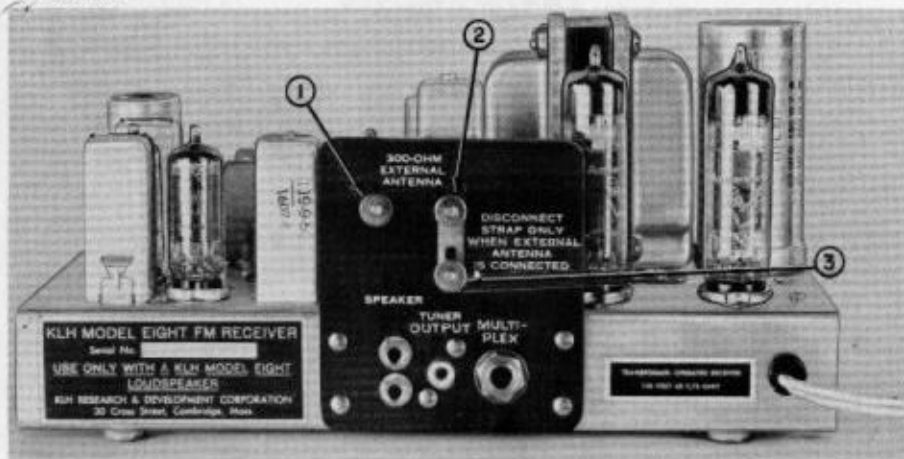

Figure 1
antennas. See Figure 1. The line-cord antenna that is built into the receiver remains connected so long as the shorting strap remains in place on terminals (2) and (3). In general, the built-in antenna will provide optimum reception of stations within metropolitan areas, and no advantage can be gained by erecting an external antenna, whether it be indoor or outdoor.
- ① Rearrange the line cord behind the receiver, to see whether a new position of the cord can be found that will improve reception, keeping in mind that the cord must be uncoiled away from and preferably to the rear of the receiver if the line-cord antenna is to function properly.
- ② If the rearrangement of the line cord does not provide the desired improvement, loosen the two knurled nuts clamping the shorting bar on the terminal board (shown in Figure 1), and slide the shorting bar downward until it clears the upper terminal (2). Do not remove the shorting bar from the terminal board. You may find occasion to use it in the future. Instead, re-tighten the lower knurled nut (3) to retain the bar, and install a 3 to 5-foot length of wire on ~~one of the~~ antenna terminals (1) or (2). In general, best results are obtained when this wire is vertical, but a number of positions should be tried.
- ③ An alternative to the use of the single-wire antenna is the use of a "rabbit ear" antenna commonly used with TV receivers. The procedure outlined under (2) should be followed in connecting the antenna,
except that the leads from this antenna should be connected to the antenna terminals (1) and (2) of Figure 1. Try different positions (up, down, and sideways), different "ear" lengths, and rotate the antenna for optimum reception.